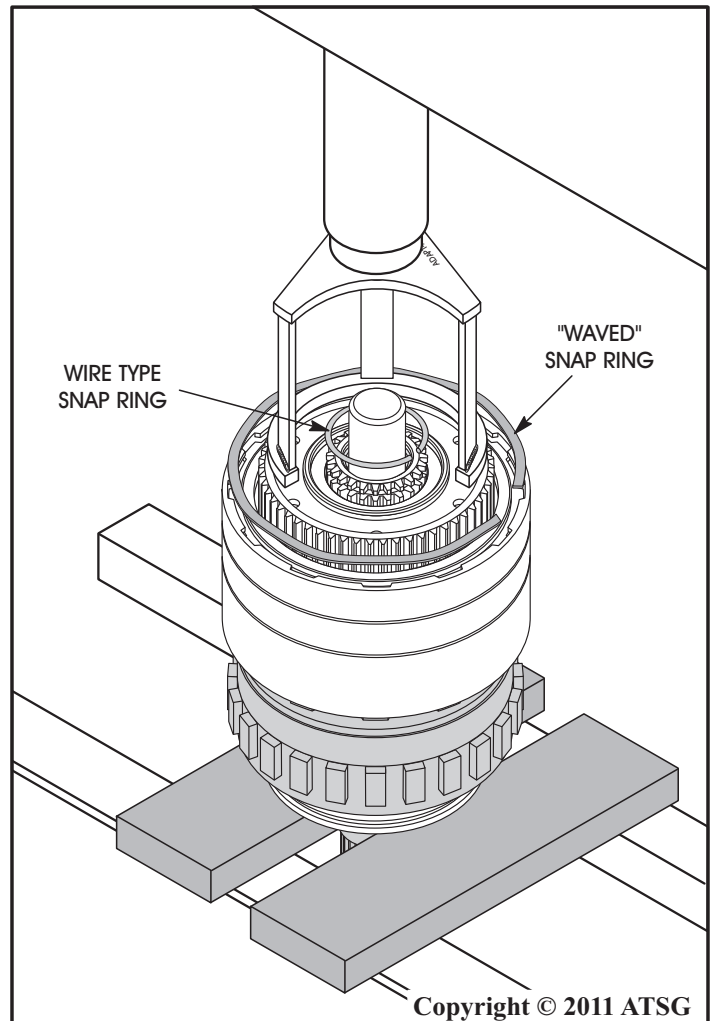

Figure 187
34. Install the overdrive direct clutches and backing plate into housing, as shown in Figure 187.
35. Install the overdrive direct clutch "wave" snap ring, as shown in Figure 187, and "ensure" that snap ring is fully seated in snap ring groove.
36. Install the overdrive clutch hub "wire type" snap ring into groove of the sun gear shaft, as shown in Figure 187, and "ensure" it is fully seated.